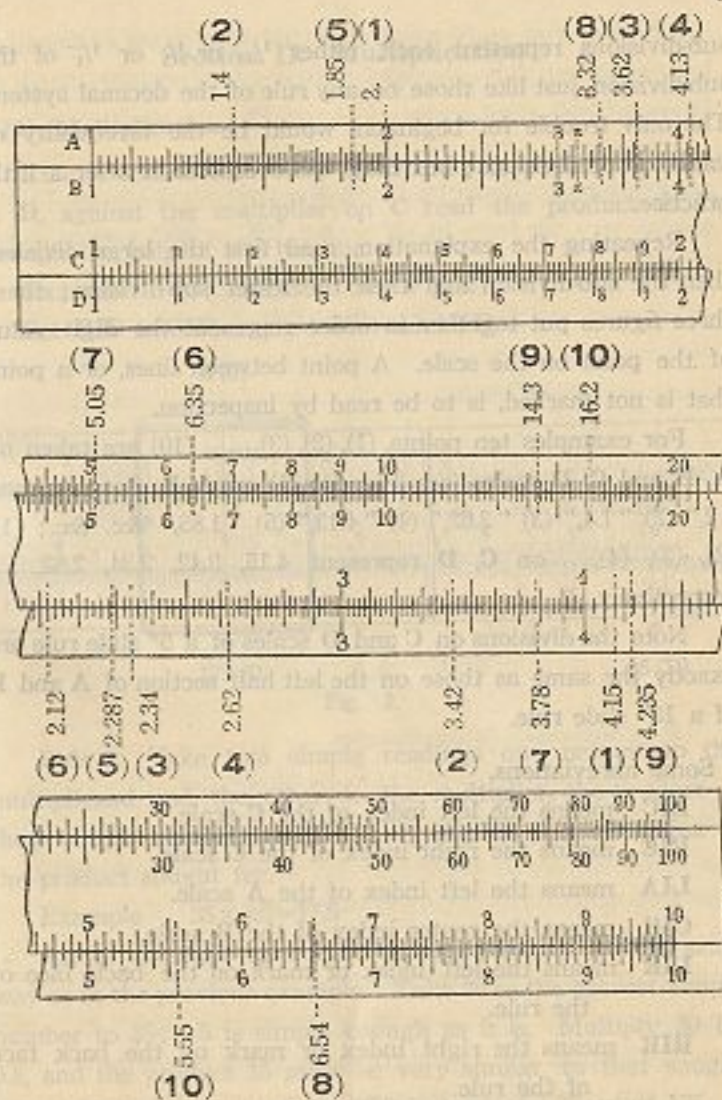

Fig. 1.
For examples ten points, (1), (2), (3)....., (10) are taken on A, B and C, D scales (see Fig. 1): (1) on A, B, is to be read "2," (2) "14," (3) "3.62," (4) "4.13," (5) "1.85," &c. &c.; (1), (2), (3), (4).....on C, D represent 4.15, 3.42, 2.34, 2.62..... respectively.